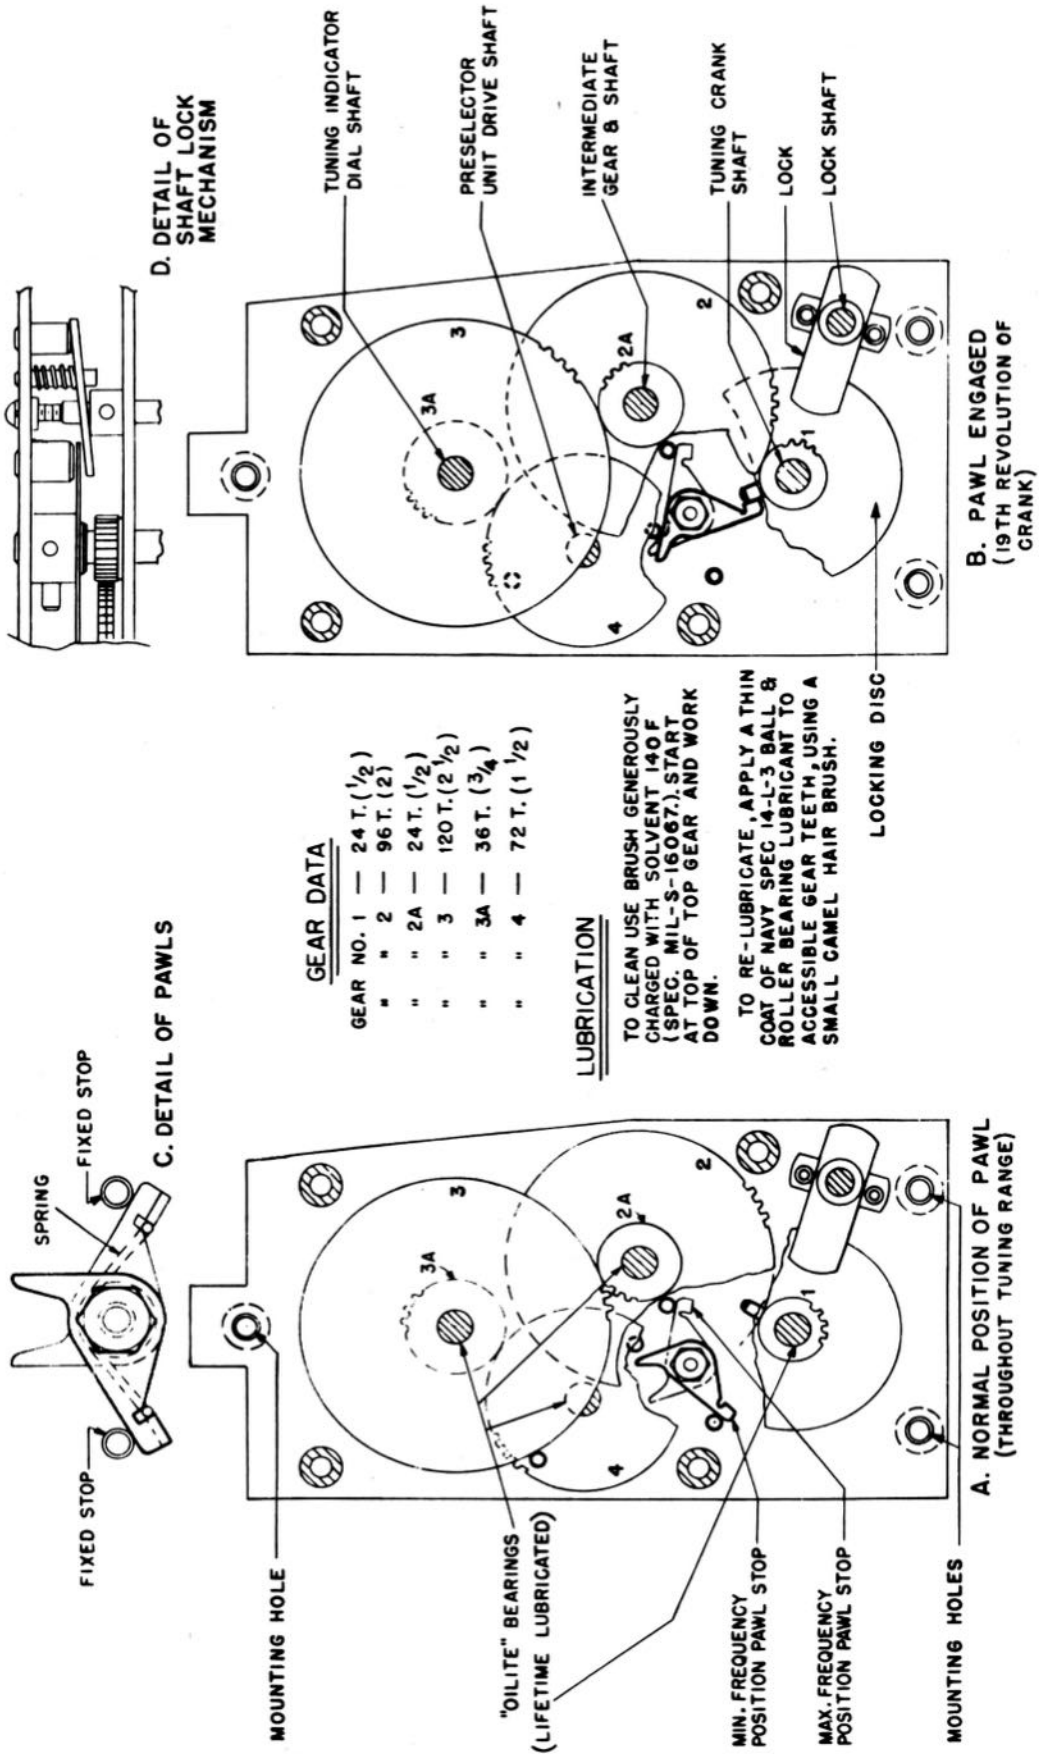

Figure 6-1. Dial-Drive Mechanism, Details and Lubrication
b. DIAL DRIVE MECHANISM.—If operation of the dial-drive mechanism becomes sluggish due to accumulated dust and grit in the gears, it may be advisable to clean and relubricate the gears, as explained in figure 6-1. To clean the gears, use a small brush generously charged with Dry Cleaning Solvent 140F (FED. SPEC. P-5-661b) and start with the top gear and work down. To relubricate, apply a coating of the above-mentioned lubricant to the teeth of the accessible gears, using a suitable camel's-hair brush (Standard Navy Stock Number 38-B-725).